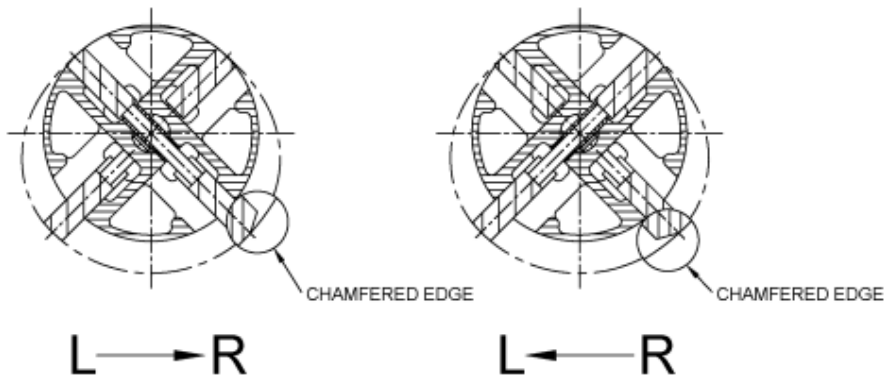

Figure 50 – Chamfered edge of the vanes in relation to the flow direction
- The chamfered edge of each vane must be in the rotating direction of the rotor, as shown in Figure 50.